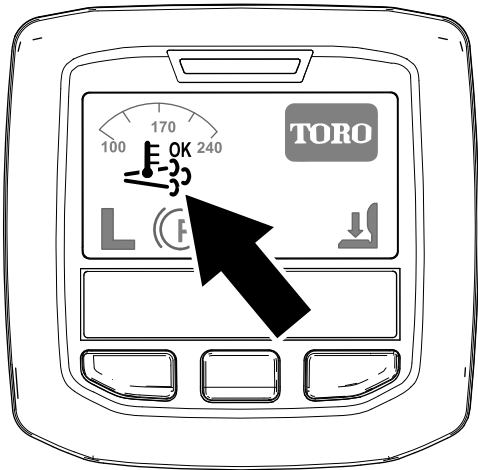

Figure 44
- The assist/reset-regeneration icon displays in the InfoCenter (Figure 44).